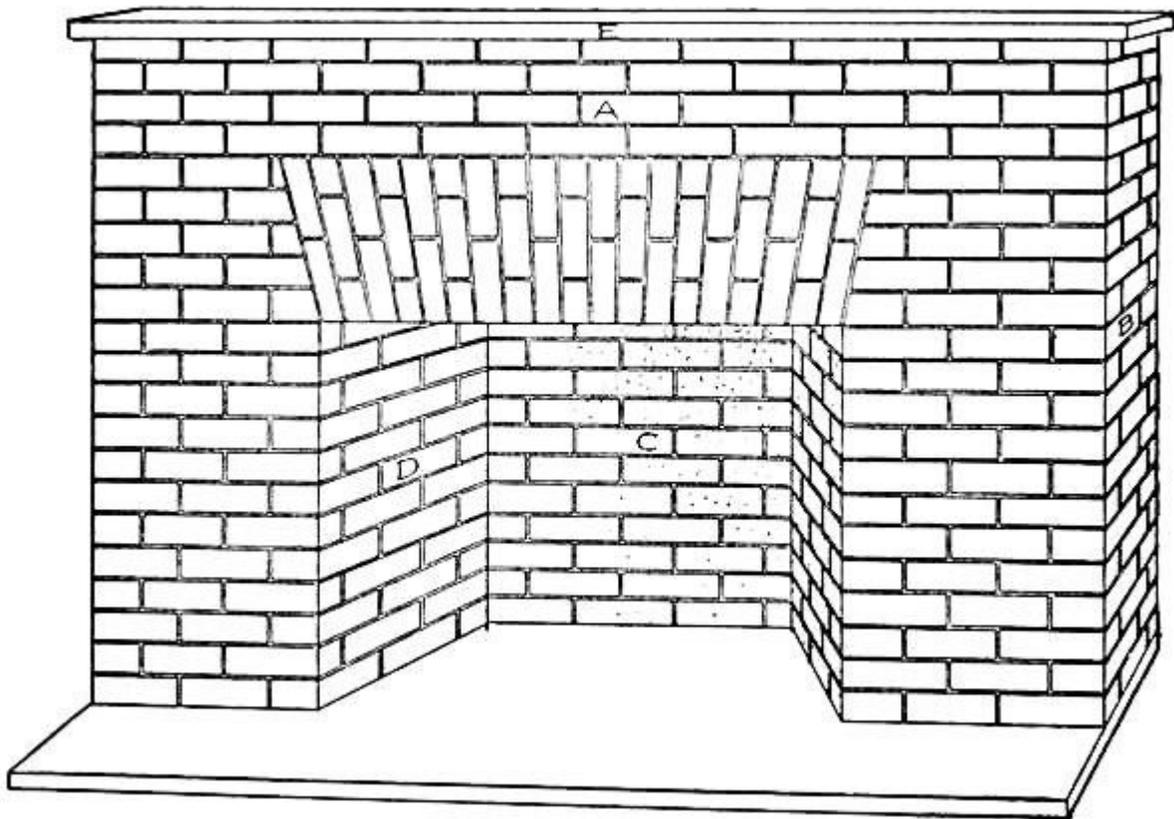

FIG. 93.—The Living-room Mantel.
**A Mantel and Fire-place** in the living-room of the house, and it had better be built in at this point. Figure 93 shows about the simplest form of mantel you can make, and one that presents a very neat appearance. It is made out of cigar-box strips painted to represent brick, with stone hearth and mantel-shelf. It measures seven inches wide, four and five-eighths inches from the base to the top of the shelf, and has a fire-place opening four inches wide and two and one-half inches high.
of the fire-place, two of *D* for the sides of the fire-place, and one of *E* for the mantel-shelf. These pieces, with the exception of *E*, should be painted red, and striped off, when dry, with white paint to represent brick. It will be much easier to do the painting before fastening the pieces in their proper places. First divide the length and breadth of the pieces into about the number of spaces shown in Fig. 93 with a lead pencil. Then with a small brush, and straight-edge for a guide, trace over the pencil lines with white lead. Be careful in striping the brick to get the courses the same upon each piece so they will correspond when the pieces are put together.
**The Hearth** is made out of a strip seven inches long by two inches wide. Upon this the mantel should be put together with the pieces prepared. Figure 93 shows the location of each piece, and with the aid of glue and some small brads it will be a simple matter to complete the mantel. The edges of the strips had best be mitred to make neat joints. Paint the hearth and mantel-shelf white.